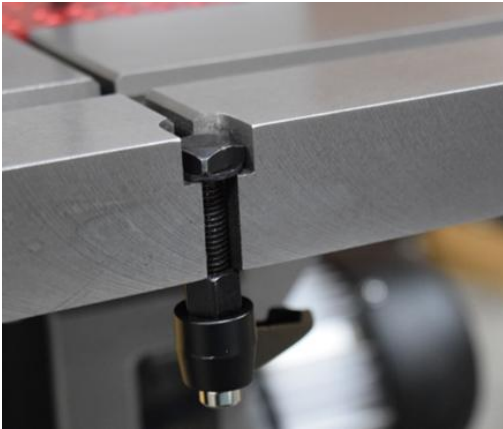

Fig. 24
1. Insert leveling bolt through the front hole in the table and place the washer on the top side (Fig.24).